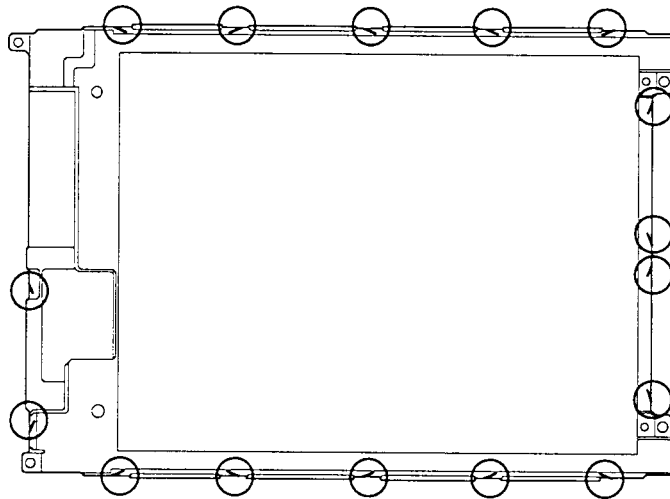

Figure 4-45 Unbending the color LCD module latches (T4700CS)
To remove the T4700CS's FL, follow the steps below. Refer to figures 4-45 through 4-47.
3. Lay the **color LCD module** face down and use needle-nose pliers to unbend the **16 latches** holding the front and back frames together. Then, lift the unit out of the front frame (figure 4-45).
To install the T4700CS's FL unit, follow the steps below and refer to figures 4-45 through 4-47.
3. Carefully bend the **16 latches** back into place (figure 4-45).